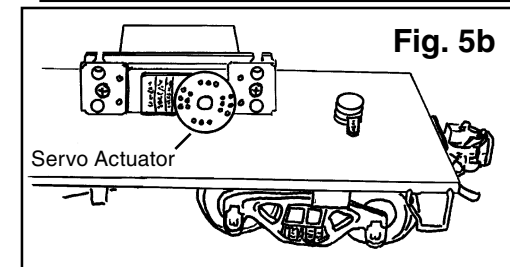

Fig. 5b
**7)** Mount servo in desired position, with servo actuator aligned near the center line of the floor. Mount with double sided tape or screws. see **Fig. 5b** (Clean both surfaces with alcohol wipe if using double sided tape.)